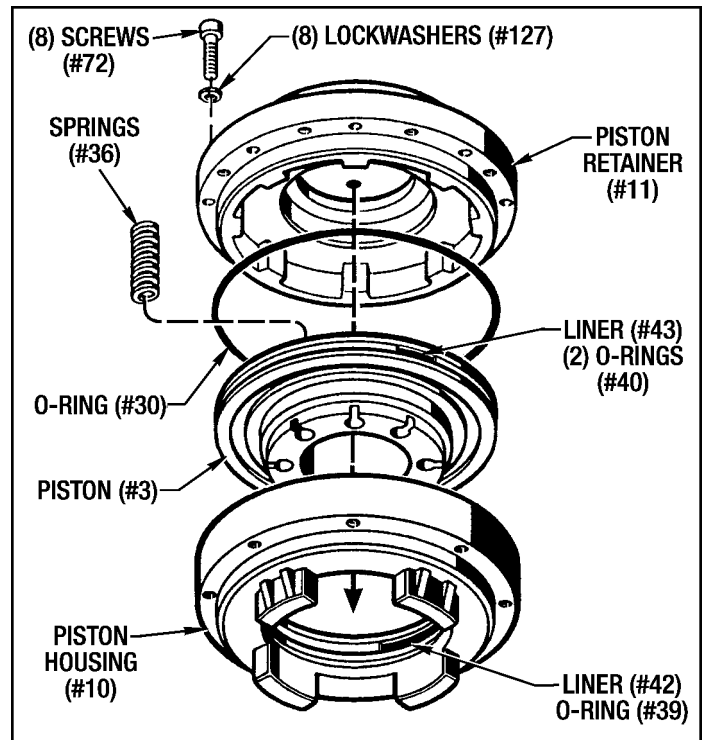

Figure 9.3 - Piston, Retainer and Housing Reassembly MB-250, 280 and 320
- Lubricate the (2) O-Rings (#40) and the Teflon Liner (#43) with **White Grease** and install them onto the Piston (#3). (See Figure 9.3 below.)
- Lubricate the (2) O-Rings (#39) and the Teflon Liner (#42) with **White Grease** and install them into the Piston Housing (#10).